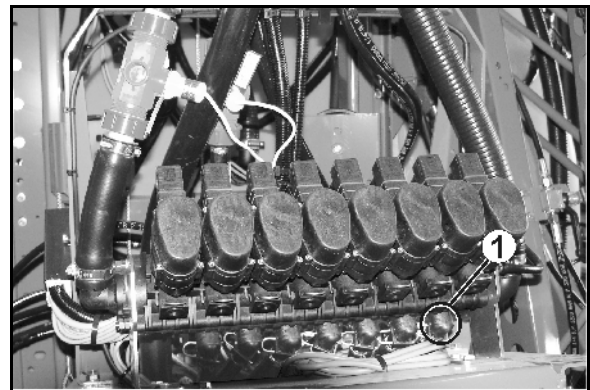

Fig. 143
13. Remove all the spray lines from the part width section valves (Fig. 143/1) and blow out with compressed air.